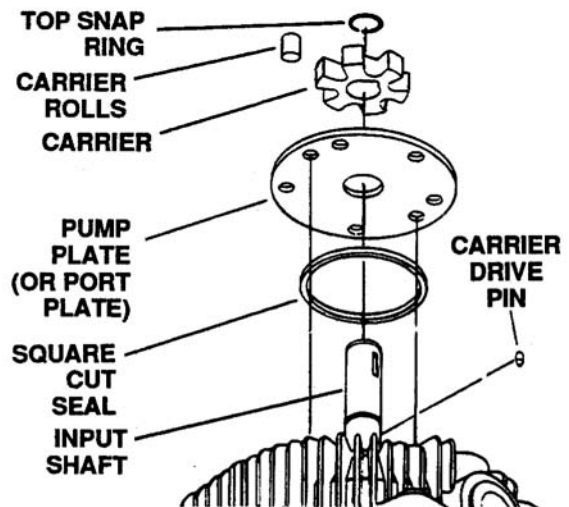

Figure 6-109. Removing Carrier Rolls and Snap Ring From Input Shaft
- f. Remove the six carrier rolls and top snap ring from the input shaft. See Figure 6-109.
- h. Remove the carrier, carrier drive pin, lower snap ring and pump plate. See Figure 6-109.